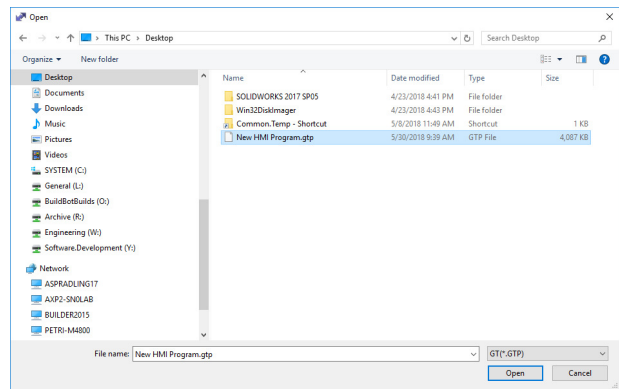

Figure 7
- 13) Click the **Browse** button  to locate the new HMI code file. (Figure 7)
- 14) Select the file and click the **Open** button (specific .GTP file may have different name). (Figure 7)